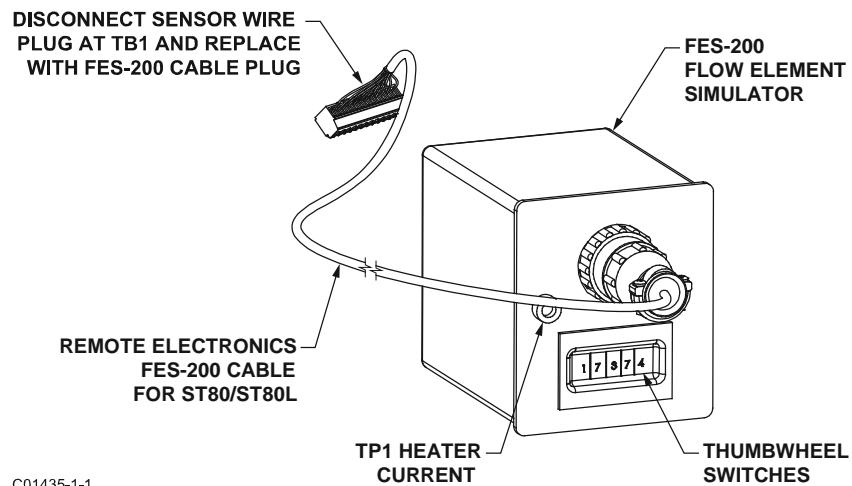
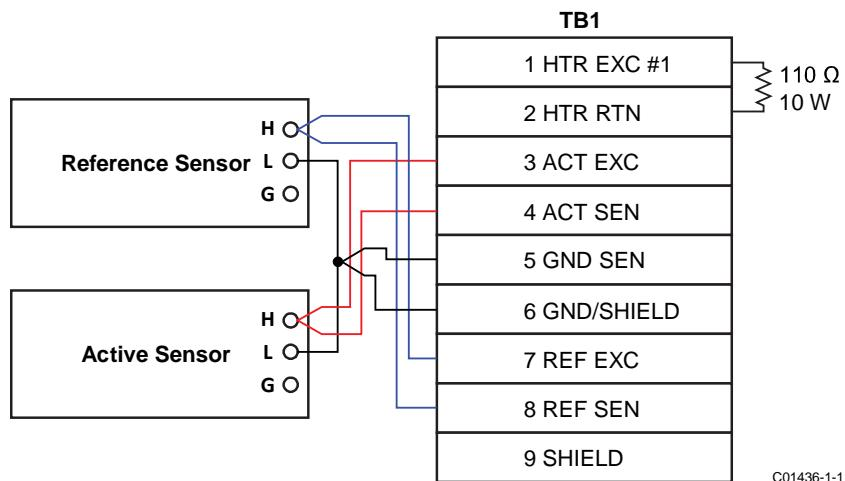

Figure 57 – Connecting FES-200 to ST80/ST80L Transmitter
Figure 58 – ST80/ST80L Decade Box Wiring
3. Disconnect a flow element sensor from the ST80/ST80L transmitter (TB1) and connect the FES-200 cable connector in its place. See Figure 57. Precision decade boxes can be used in place of the FES-200. See Figure 58 for decade box wiring.